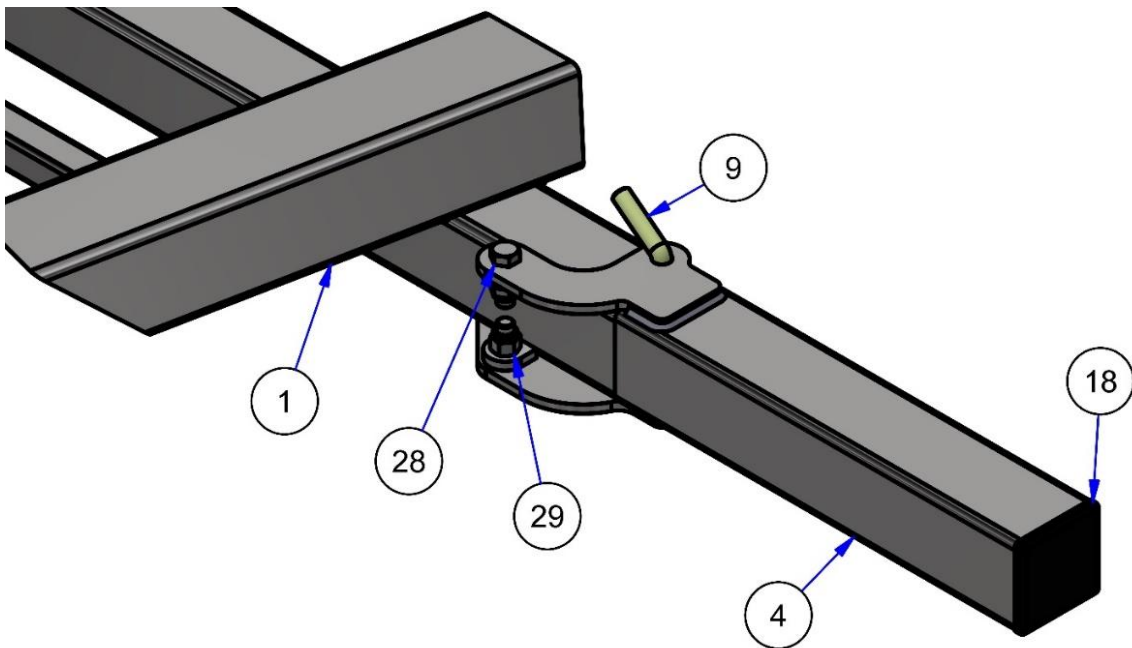

Figure 17 (Underrun Bar Assembly)
2. Bolt Items 3 and 4 onto the underrun bar centre (Item 1) using the four M16 nuts and bolts as shown in Figure 17